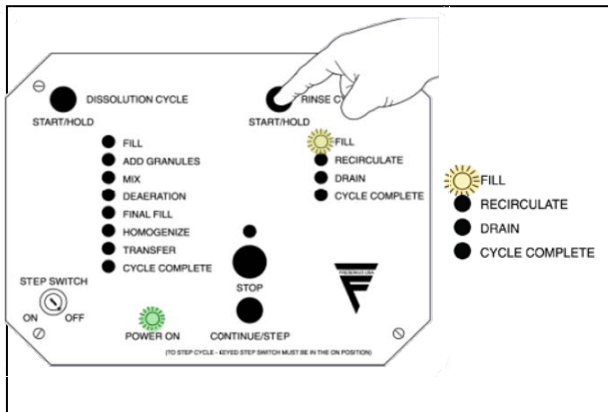

Figure 2
2. The RINSE CYCLE consists of two complete RINSE Operations. Press the Rinse side START/HOLD button. The Fill Indication Light will illuminate indicating the RINSE CYCLE has started and the GranuFlo I Dissolution Unit is in FILL Operation (Figure 2). Verify tank is filling and the water level stops at the 25-Gallon Sensor. Lift the Access Lid and look into the tank to verify that the tank is filling.